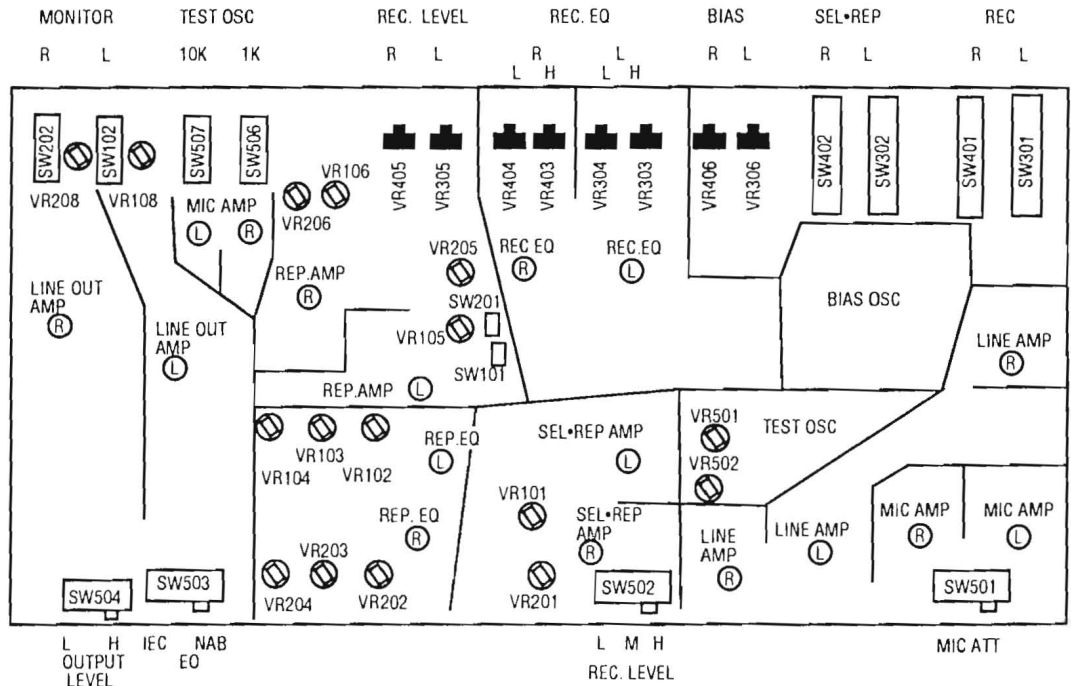

Figure 7-1
3. Adjust VR502 on the REC/REP AMP PCB Assembly (see Figure 7-1) so that the VU meter indicates 0 VU. Perform the same adjustment to the CH2 REC/REP AMP PCB Assembly.